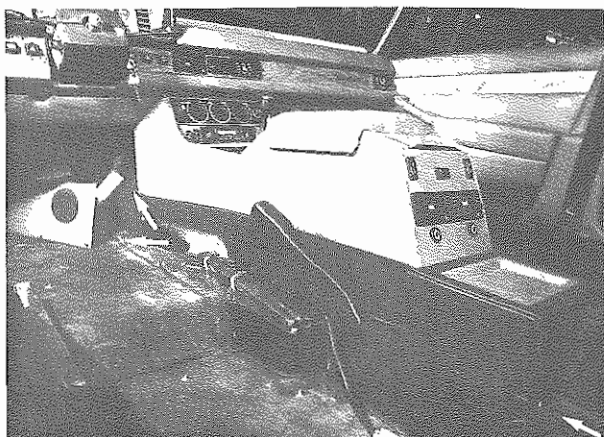

Fig. 10 - Pannelli laterali
- Smontare i pannelli laterali presenti sotto la plancia (Fig. 10).
- Disassemble lateral panels that are found under the board (Fig. 10).